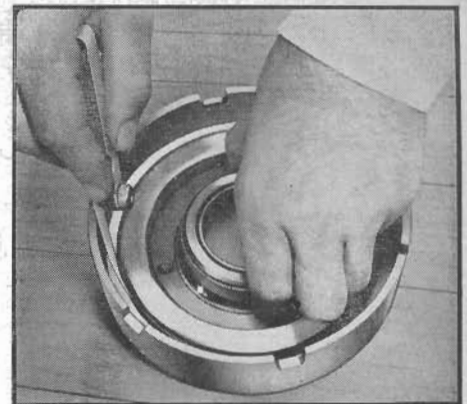

Fig. 25 Checking seating of clutch piston outer seal. 1950-52
3. Place small amount of transmission oil on inner diameter of clutch drum and on seals. Then carefully install piston into clutch drum, using a piece of feeler stock to insure seating of outer ring seal in clutch drum, Fig. 25.